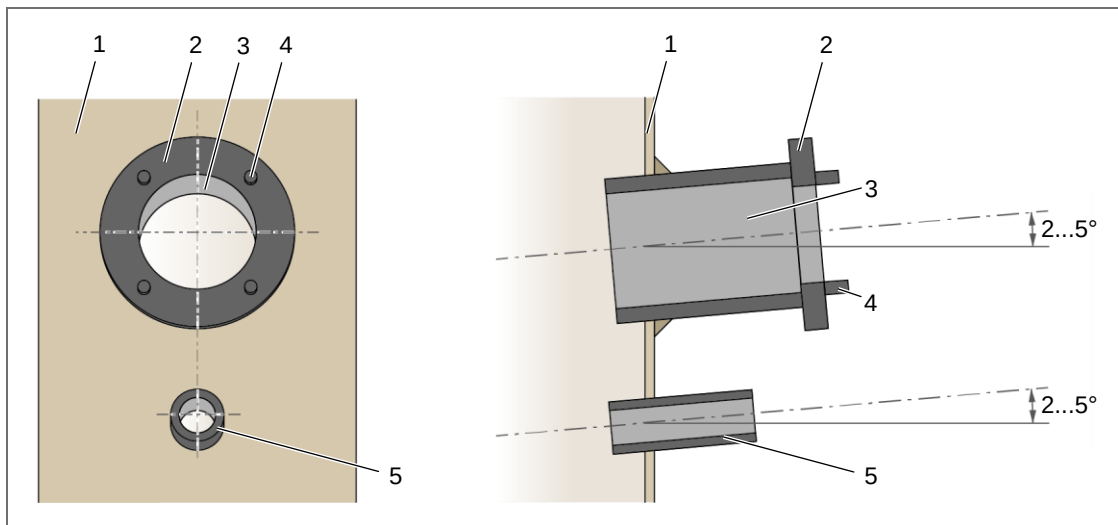

Fig. 17: Mounting of welding flange – variant with separate return
2. Mount the welding flange (3, Fig. 17) at the provided aperture in the duct wall (1).
3. Mount the return flange (5) at the provided aperture in the duct wall (1).